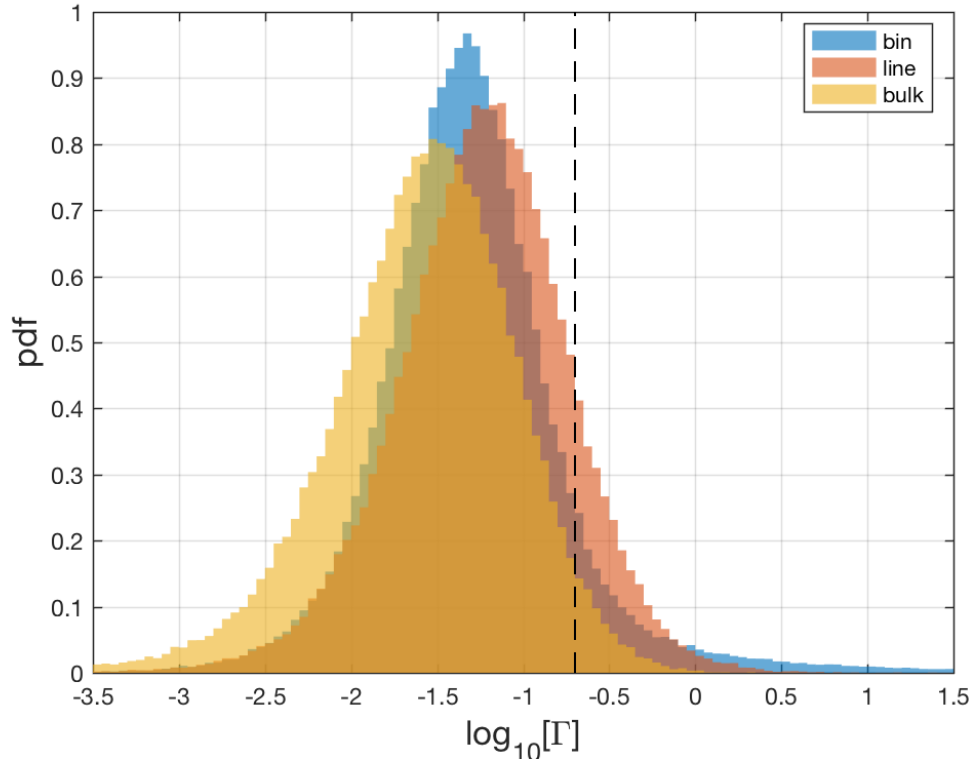

Figure 1: Histogram of Γ for patches, using different estimates of N^2 and T_z . Vertical dashed line shows $\Gamma = 0.2$. For all profiles.
- Gamma computed over patches w/ linear fits is less than 0.2 (Figure 1).